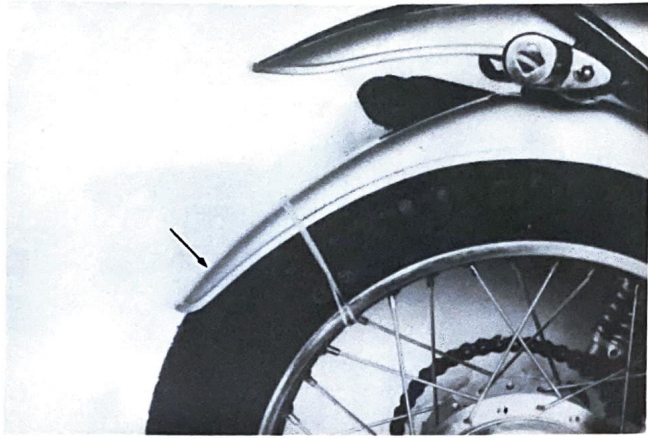

Fig. 6
b. Remove the front fender located between the rear fender and the rear wheel. (Fig. 6)